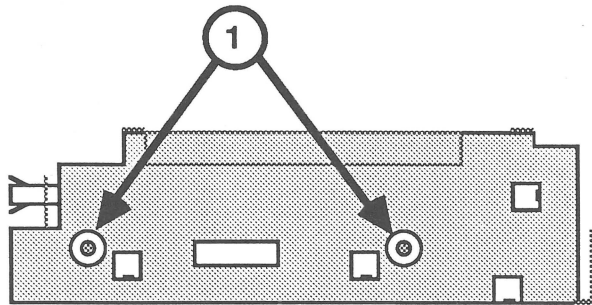

FIGURE 8
2. Remove the two screws from each side of the outer metal shield (Figure 8, #1).